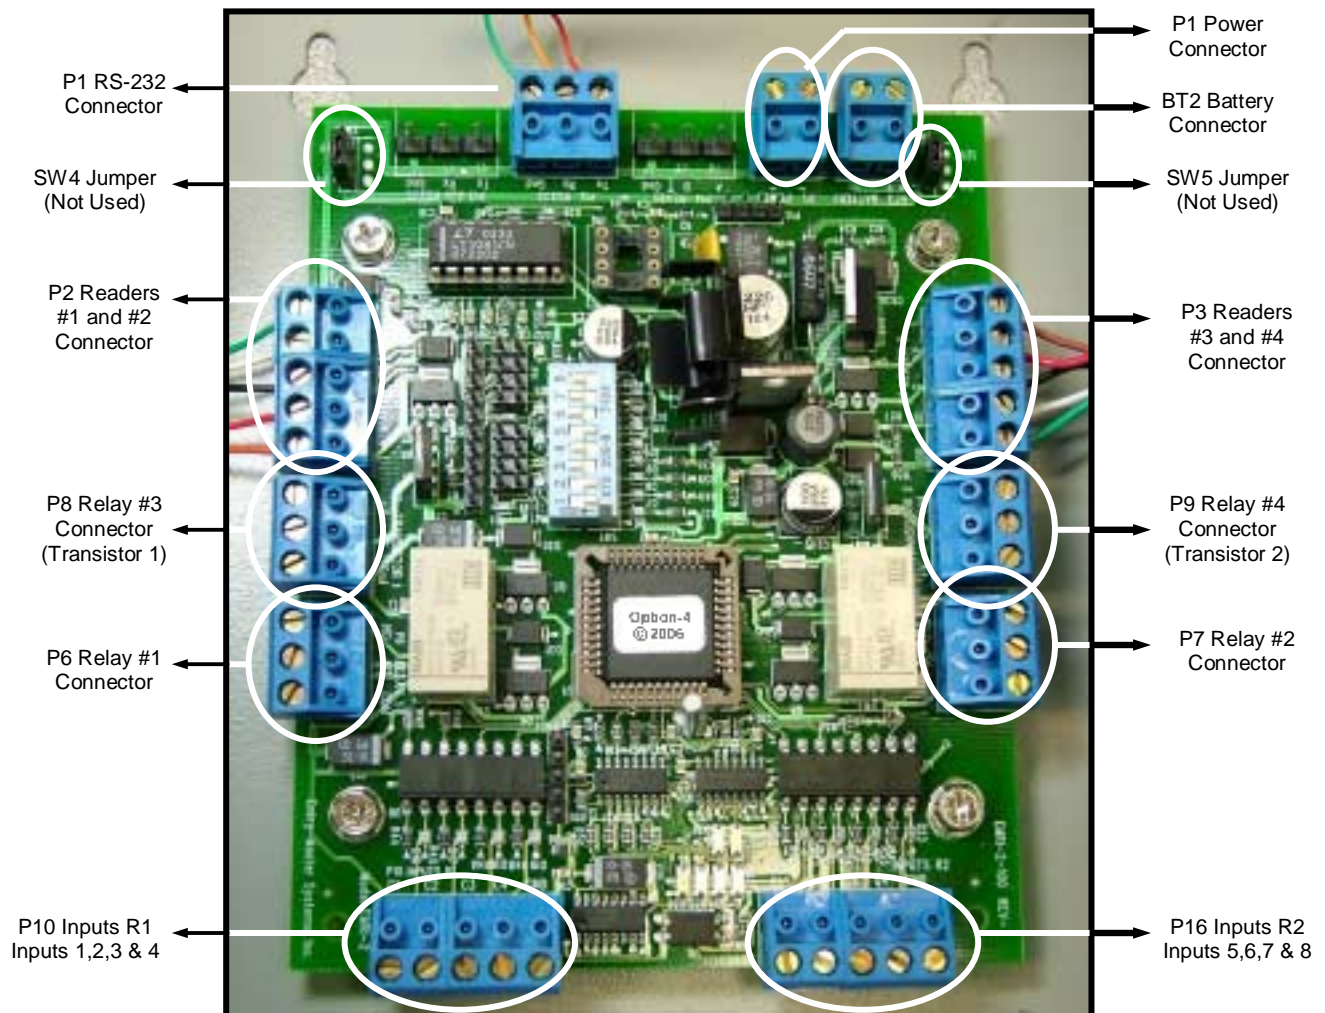

Figure 1. Option-4 Circuit Board
- iii. A set of two (2) enclosure keys.
- vii. A set of four (4) Dallas **iButton**® readers.
3. The Option-4 board is capable of controlling four (4) doors using Dallas Semiconductor **iButton**[®] tokens and readers.
7. Refer to **Figure 1** below for connecting devices to the Option-4 circuit board:
1. The Option-4 circuit board has two (2) connectors for *Inputs*; inputs are used to monitor doors that may have been propped open, opened without a card, or simply as a **Request to Exit**, also known as a **REX** button or switch, which allows a person to unlock a door from somewhere other than at the door (i.e. a receptionist could press a button under the desk to allow entry through the front door).
2. The connectors are labeled **P10 INPUTS R1** and **P16 INPUTS R2** (see the figures below, and also **Figure 1** on **Page 2**):